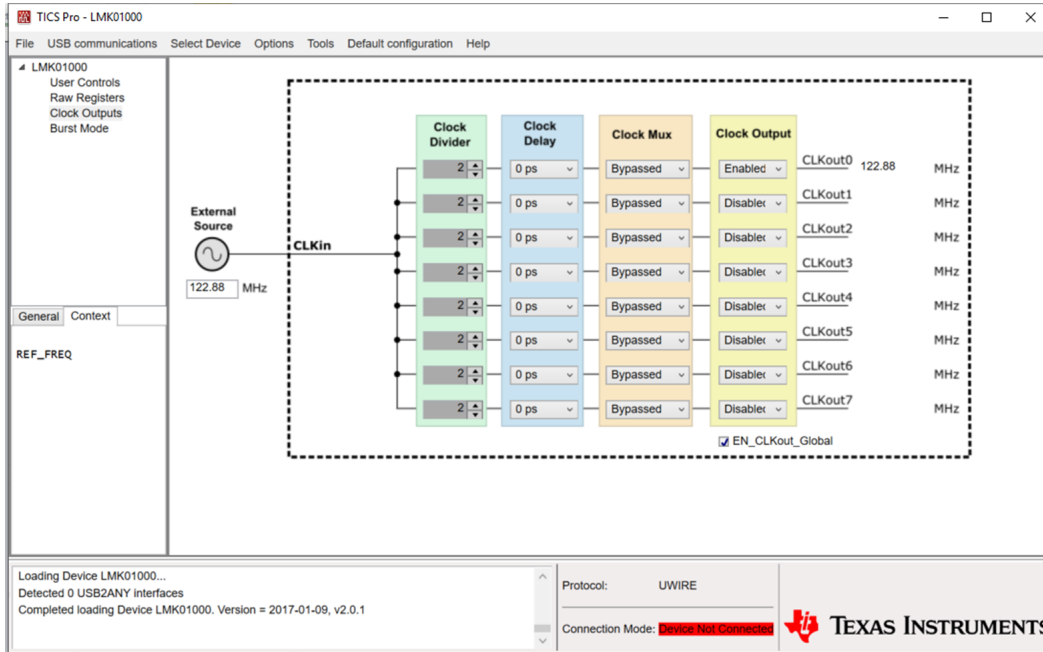

Figure 4. GUI 2
- 6) Enable the output to measure (example CLKout0 is enabled see Figure 4).